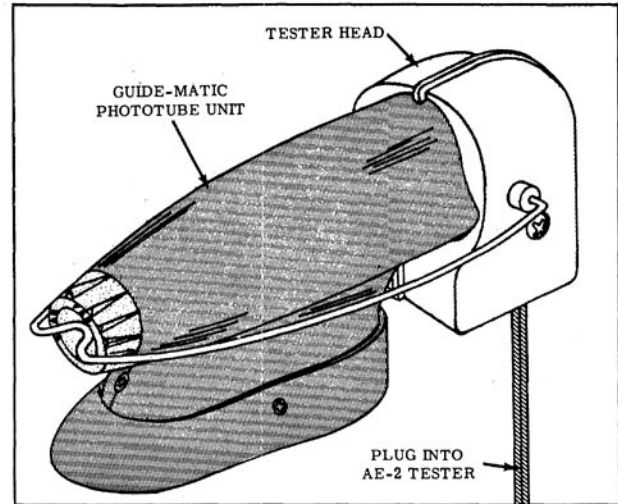

Fig. 12-56 Tester Head Installation
1. Place tester head against front of phototube unit and position bail into place over sensitivity control knob. Plug tester head into modified AE-2 tester. (Fig. 12-56)